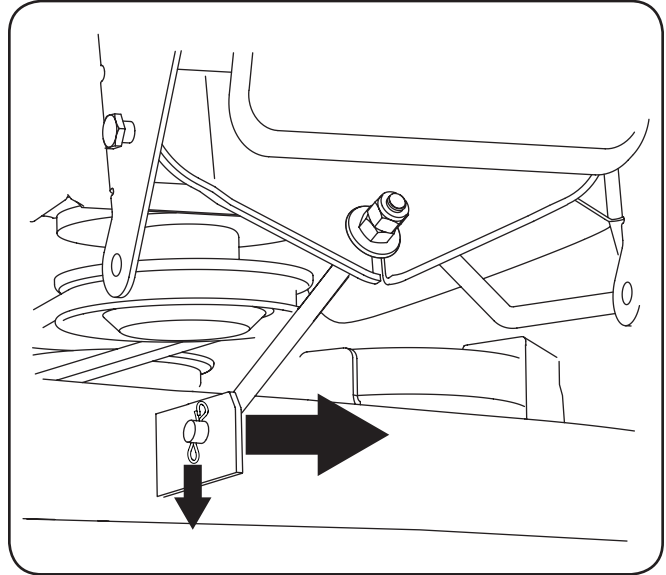

Figure 7-2
8. Remove the cotter pin from the end of the stabilizer rod and slide the stabilizer out of the hanger bracket on the deck. See Fig. 7-2.